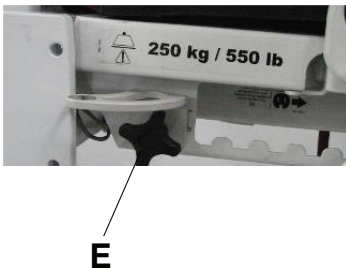

Figure 95: Installing the screw knob
2. Install the screw knob onto the bracket back (E) (Figure 95 on page 101).